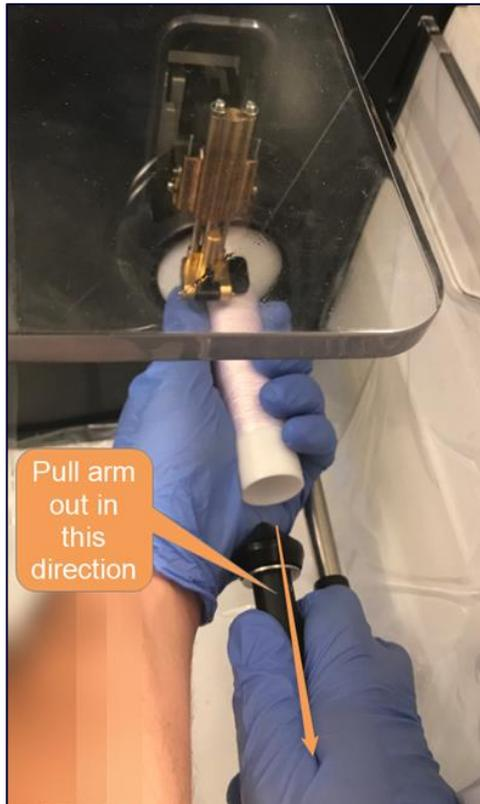

Figure 56: Releasing the cone
2. To release the collecting cone, hold the cone with your left hand and, using your right hand, firmly pull the spring-loaded cone support arm in the direction shown in Figure 56.